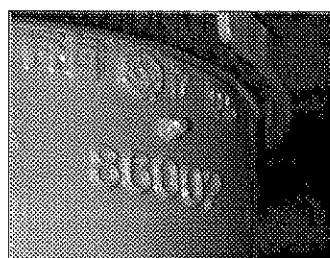

fig. 40b
- fig. 40b and 40c show the lubricators of the column symmetrically positioned on the column support.